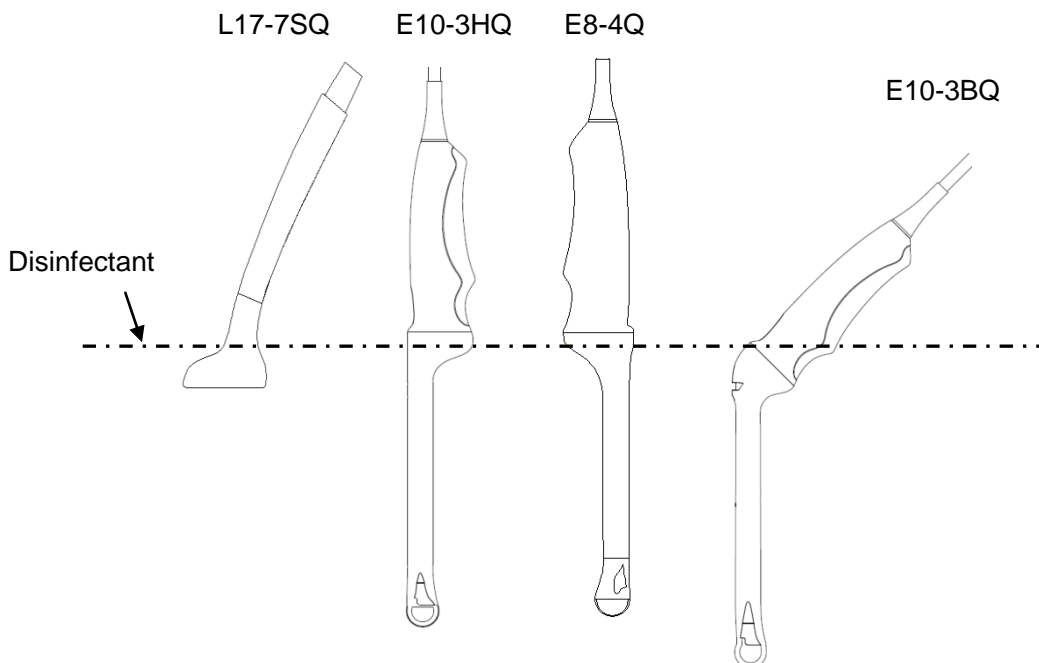

Figure 6-3 Depth of the Transducer Immersed into Disinfectant
5. Place the cleaned and dried transducer in contact with the disinfectant (refers to figure 6-3 for the contacting area) for the time specified by the disinfectant manufacturer. For example, the contact time recommended by the manufacturer for soaking in Cidex Glutaraldehyde(2.4%) is at least 45 min.
7. Patient contact area should be immersed into the solution while using the immersion method, but should not exceed the depth shown in figure 6-3.